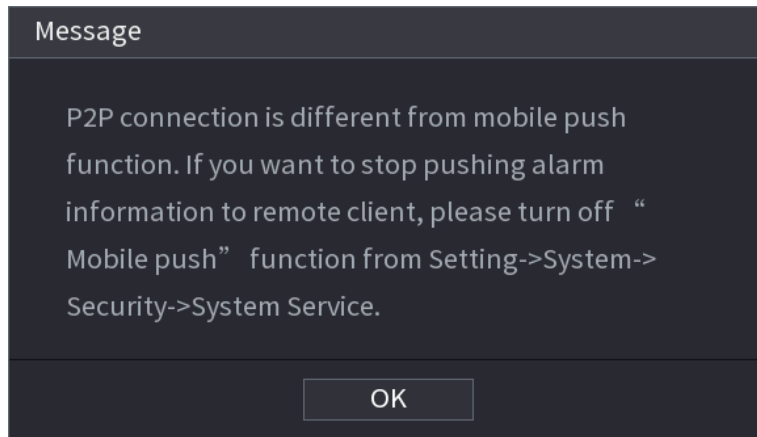

Figure 5-23
- If selection of this function is canceled, the **Message** interface is displayed. See Figure 5-23. Choose to enable it or not according to your actual need.